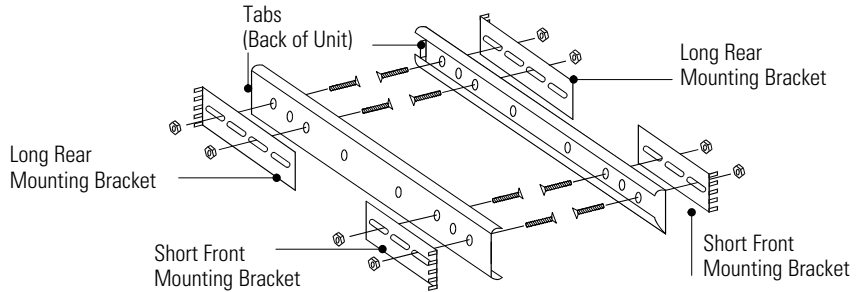

Figure 26. Securing the Brackets to the Outer Rails
- Secure the supplied long and short mounting brackets to the outer rail using at least two flat-head screws and nuts for each bracket (see Figure 26). Leave all screws finger-tight until the rails are sized for the rack.